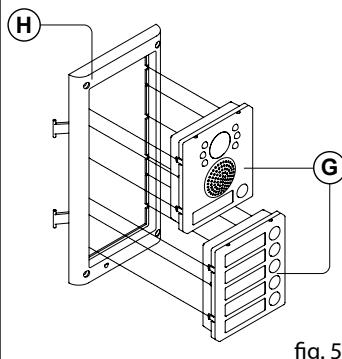
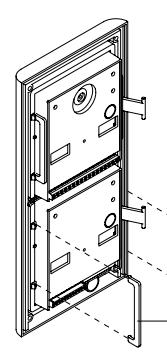

fig. 5
fig. 6
4. Before installation of the module support frame, hook the modules **G** to the support frame **H** as shown in **Fig. 5** then, as shown in **Fig. 6**, fit the two anti-tampering locks **W** for each module (do the same for the second module support frame);